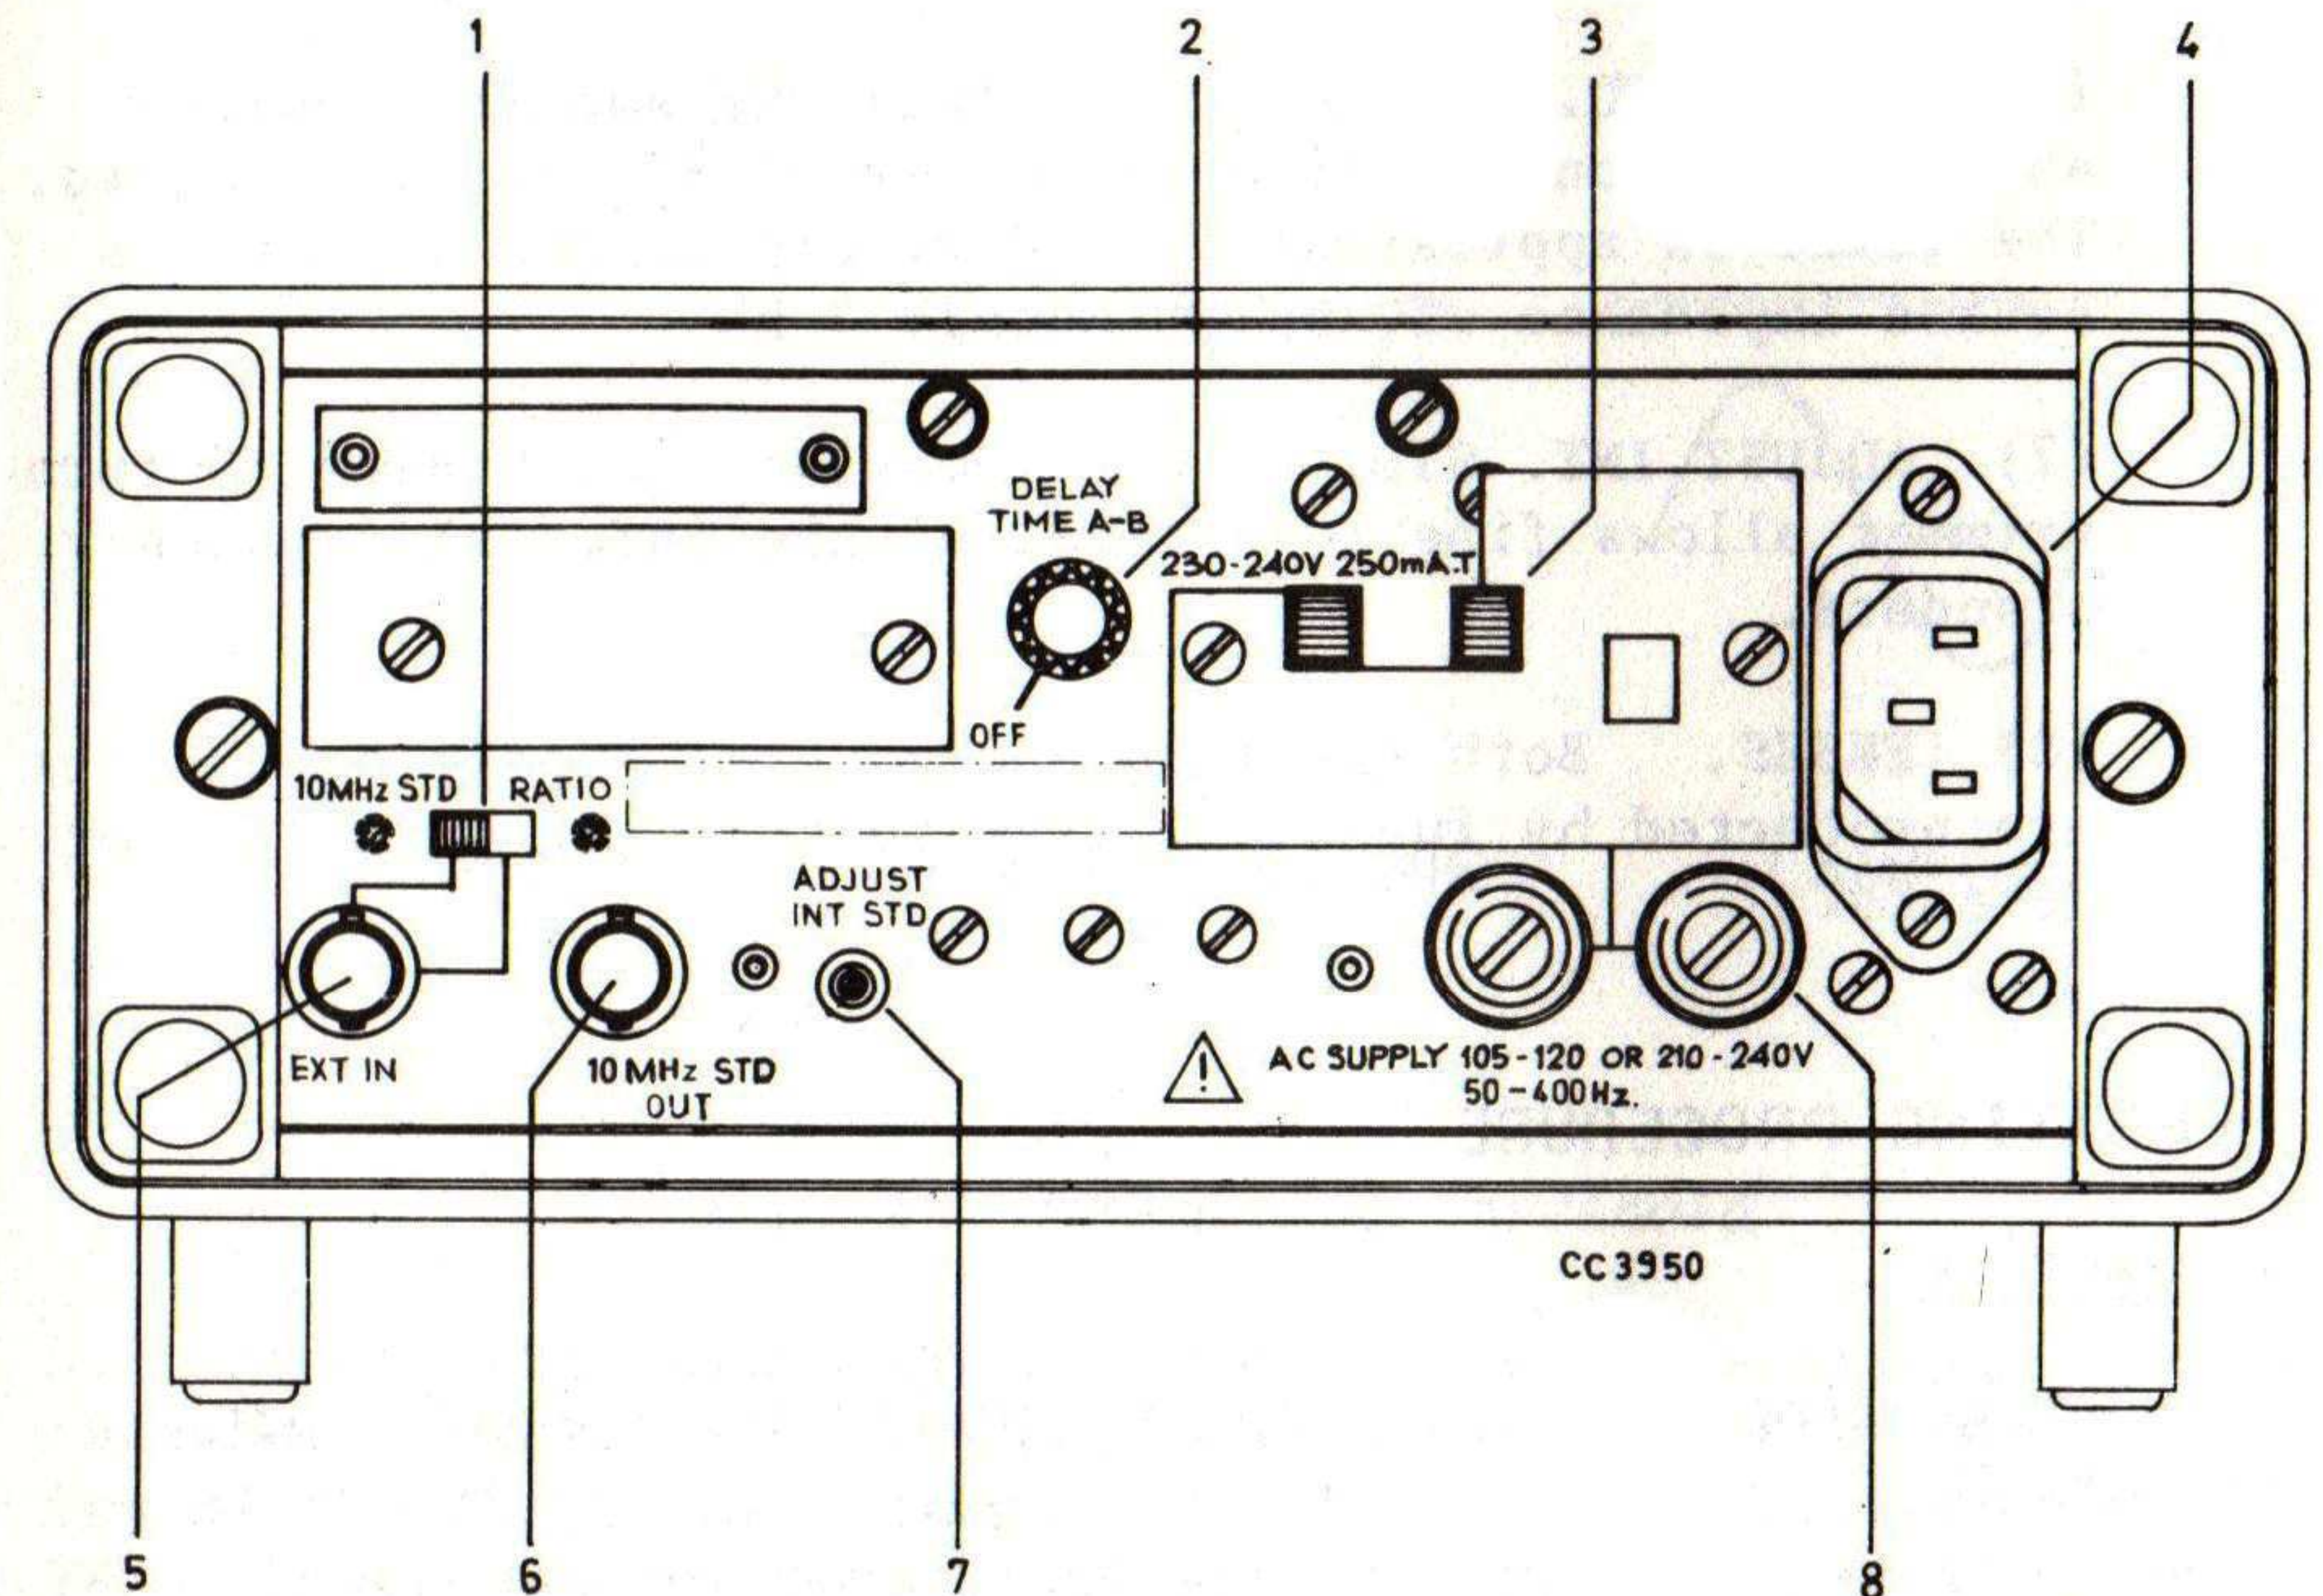

Fig. 2 Rear panel
2. Refer to Fig. 2 for rear panel details.